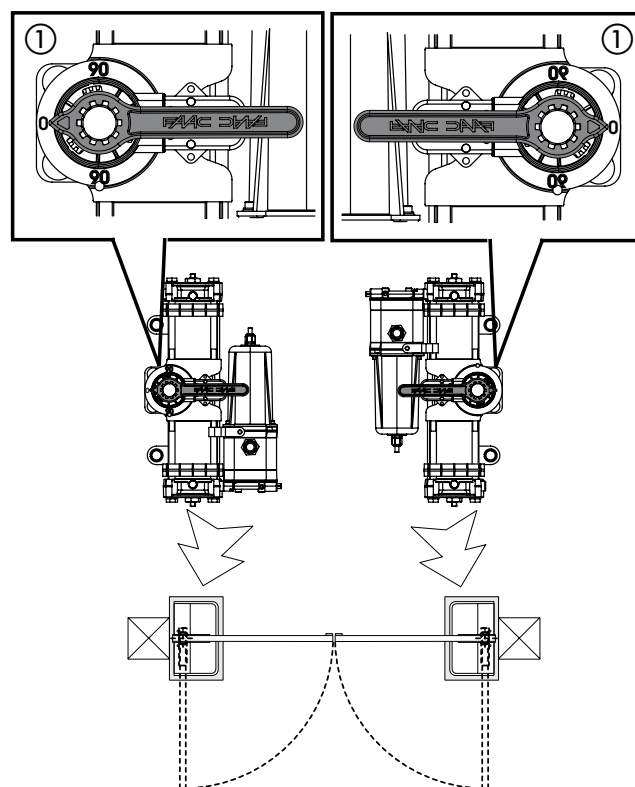

Fig. 15
- 6) **Without moving the pinion**, insert the supplied key on the operator as shown in Fig. 15, and make sure that it indicates 0 (ZERO) on the operator's plastic panel (Fig. 15 ref. ①). If necessary rotate the pinion.